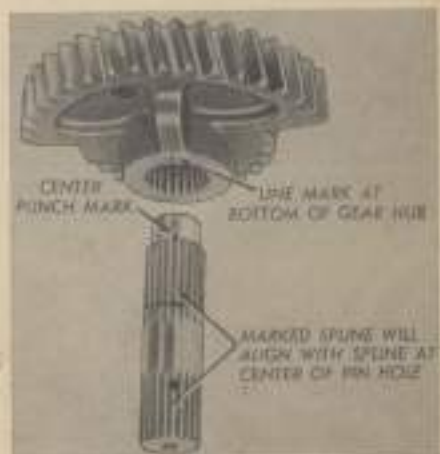

Fig. 9—Align punch mark on steering shaft with line at bottom of steering gear hub as shown.
17. **DUAL WHEEL TRICYCLE AND WIDE AXLE SECTOR SHAFT.** Disassembly of sector shaft is evident from exploded view in Fig. 7. To reassemble, drive bearing cups into front support and bearing retainer making sure that they are firmly seated. Soak new seal in oil prior to installation. Apply sealer to outer rim of seal and install seal in retainer with lip towards bearing. Drive lower bearing cone firmly against snap ring (56) on shaft. Install sector gear (see Fig. 9) with line mark on bottom of gear hub aligned with marked spline on shaft. Install upper bearing cone making sure that sector gear is seated against snap ring and that upper cone is tight against sector gear. Insert shaft assembly into front support casting and install bearing retainer (62—Fig. 7) with proper number of shims (60) to provide a free rolling fit of bearings without end play. Alternate paper and steel shims for proper sealing on early models. Late production models are equipped with an "O" ring seal between retainer (62) and front support (44). Tighten retaining cap screws to a torque of 70-75 Ft.-Lbs.